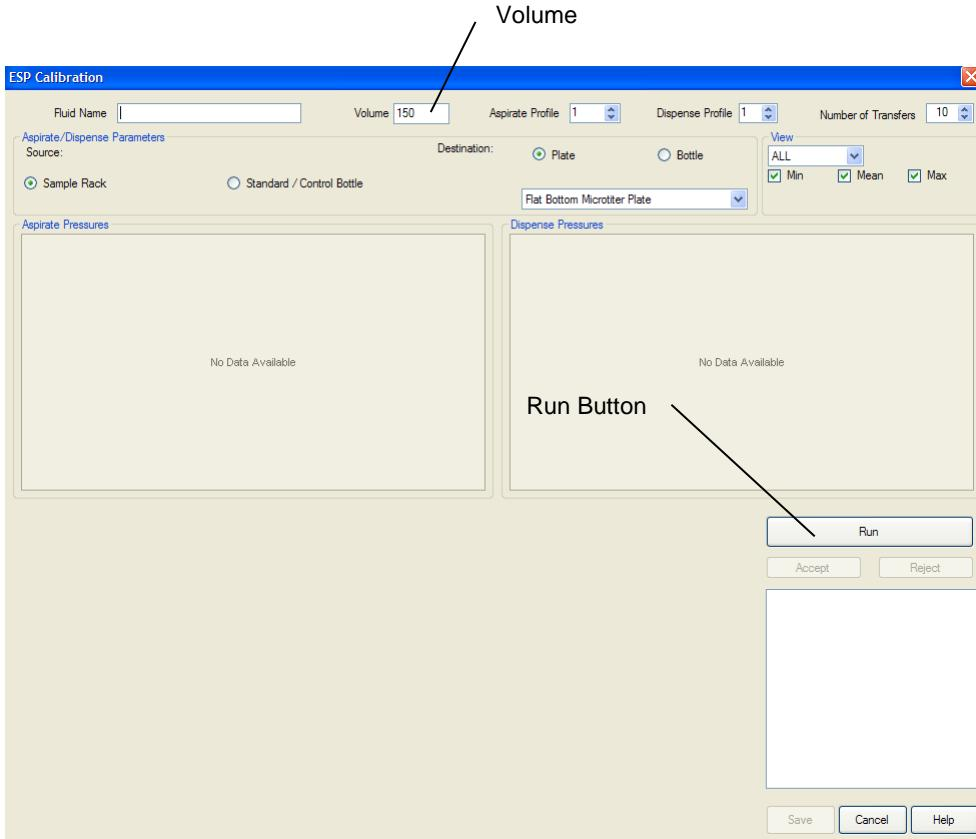

Figure 4-24: ESP Calibration Main Screen
2. The following screen will be displayed (Figure 4-24).